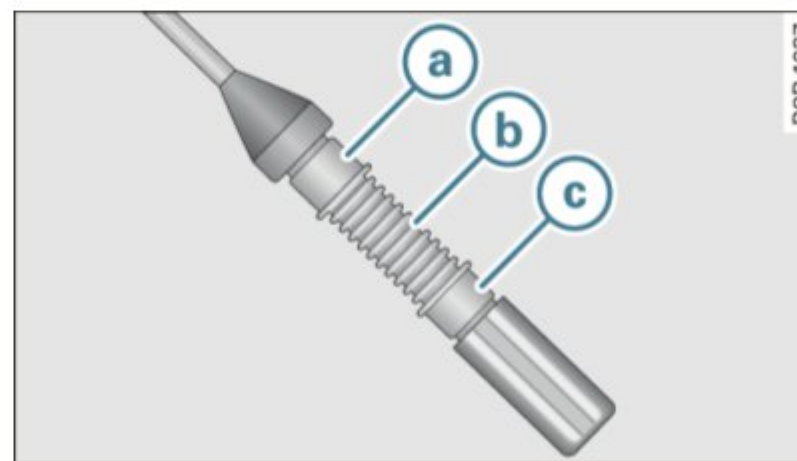
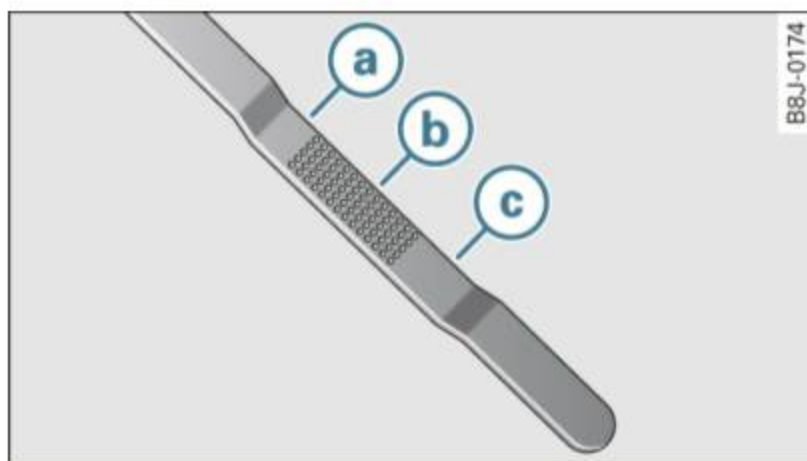

Fig. 186 Dipstick (Version A): Oil level ranges
Fig. 187 Dipstick
- Pull it back out and read off the oil level ⇒ *page 257*, fig. 186 or ⇒ fig. 187. Top off the engine oil, if applicable ⇒ *page 258*.